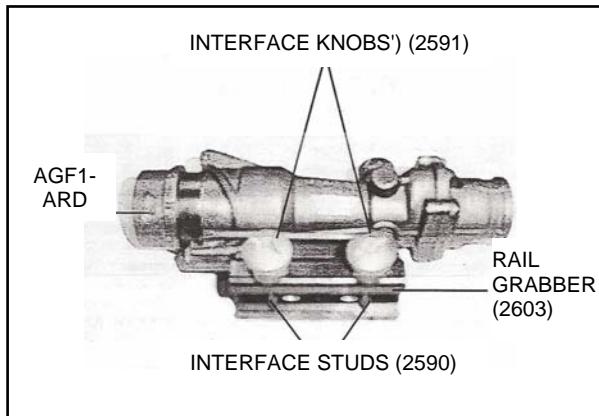

Figure 1-2
The interface knobs (2591), figure 1-2, must be tightened using fingers only. The interface knobs (2591) are designed to remain tight if installed firmly with fingers only. Then add an additional $\frac{1}{4}$ turn with a coin or bladed screwdriver. Do not tighten further or use pliers. Do not apply thread locking compound to the interface knobs (2591) or permanent damage to the mount base and interface knobs (2591) will result.
3. Loosen interface knobs (2591) (figure 1-2), and pull the rail grabber (2603) back against the interface knobs (2591).